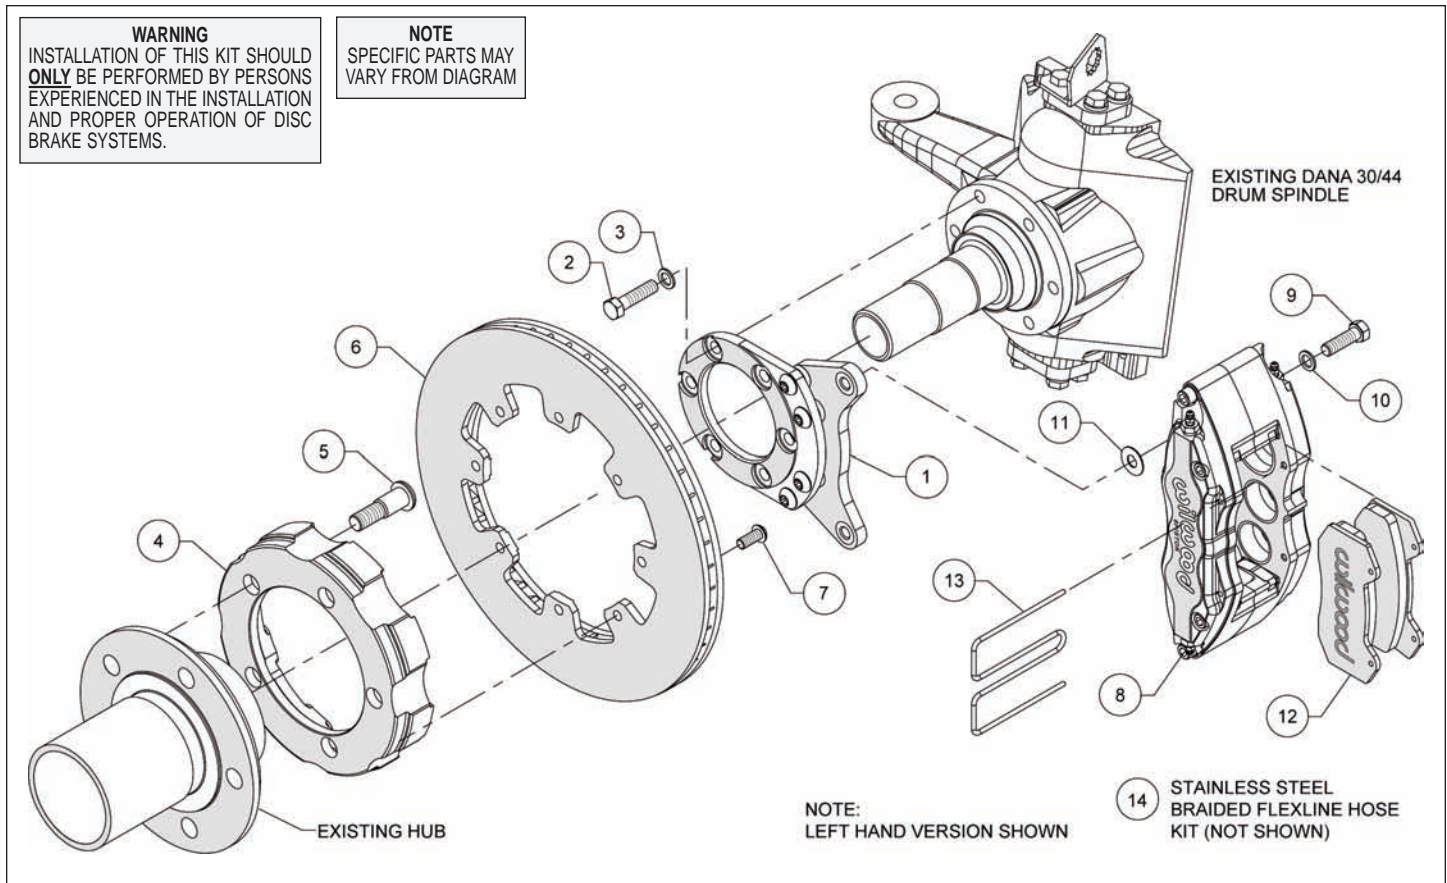
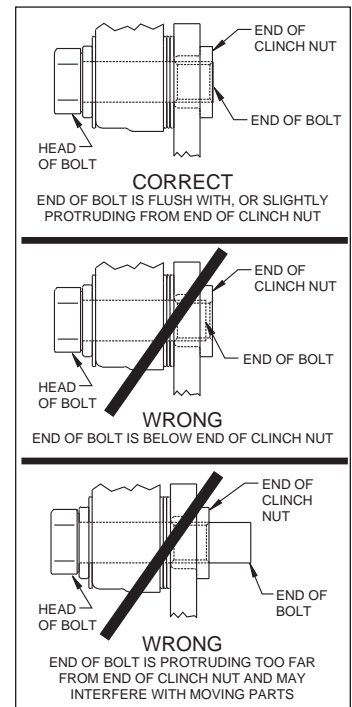

Figure 1. Typical Installation Configuration
Figure 3. Clinch Nut Engagement Diagram
Assembly Instructions (numbers in parenthesis refer to the parts list and Figure 1 on the preceding pages): **CAUTION:** *All mounting bolts must fully engage clinch nuts.* Be sure to check that all bolts are either flush or protruding through flanged side of clinch nut after shimming, Figure 3.
- Orient the caliper mount bracket (1) as shown in Figure 1 and Photo 1, and install using bolts (2), and washers (3). Ensure that the flanged heads of the clinch nuts in the bracket are facing outboard, Photo 1. Temporarily tighten the mounting bolts. **NOTE:** *The bracket must fit squarely against the mount bosses on the upright.* Inspect for interference from casting irregularities, machining ridges, burrs, etc. Remove bolts one at a time, apply red *Loctite*[®] 271 to the threads and torque to 40 ft-lb.
- Orient the hat (4) and the OEM hub as shown in Figure 1 and Photo 2. **NOTE:** *The hat must fit flush against the axle hub or excessive rotor run out may result.* Press fit the wheel studs (5) thru the holes in the hat and into the existing hub. **NOTE:** *We recommend this procedure be performed by a qualified machinist.*
- Orient the rotor (6) and the hat/hub assembly as shown in Figure 1 and Photo 3. Attach rotor to hat using bolts (7). Using an alternating sequence, apply red *Loctite*[®] 271 to the threads, and torque to 25 ft-lbs.
- NOTE:** *Please reference the caution statement at the beginning of the assembly instructions. This kit contains distinct right and left hand calipers that must be mounted in a specific direction, as described below.* Mount the caliper (8) onto the caliper mounting bracket (1) using bolts (9) and washers (10), as shown in Figure 1. Initially place one .035" thick shim (11) on each bolt between the caliper and the bracket, Photo 5. Ensure that the caliper is mounted so the largest pistons are at the rotor exit end of the caliper, in relation to the direction of rotor rotation. Temporarily tighten the mounting bolts and view the rotor (6) through the top opening of the caliper. The rotor should be centered in the caliper, Photo 6. If not, adjust by adding or subtracting shims
between the bracket and the caliper. Always use the same amount of shims on each of the two mounting bolts. **NOTE:** The end of each bolt must be flush with or slightly protruding from the head of the clinch nut, as shown in Figure 3. If necessary place spare shims between washer (10) and caliper mounting ear to achieve the proper clinch nut engagement. Once the caliper alignment and clinch nut engagement are correct, remove the bolts one at a time, apply red *Loctite*® 271 to bolt threads, and torque to 40 ft-lb.